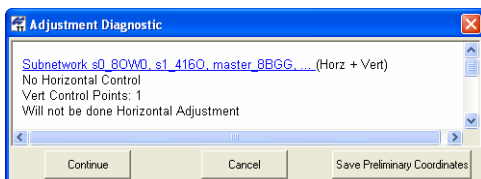

Figure 6-20. Only Vertical Control Point(s)
- If only vertical control point(s) are found, the adjustment process stops and the *Adjustment Diagnostic* dialog box will display (Figure 6-20). Click **Continue** to perform ONLY a vertical adjustment of the network.